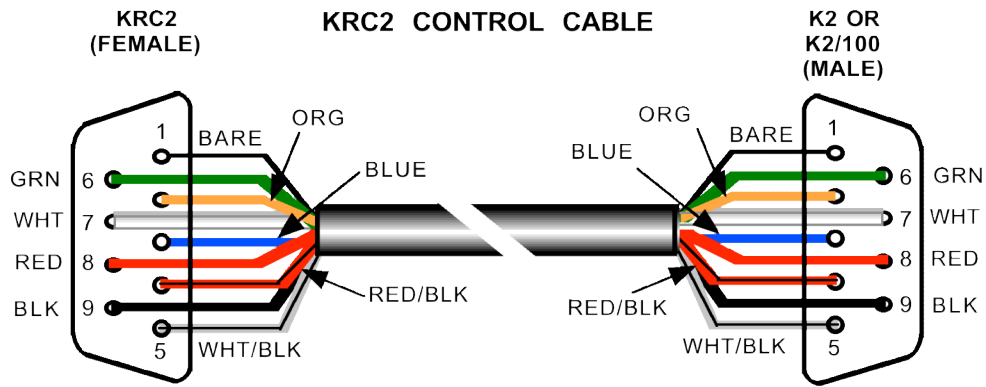

Figure 6
- Solder the wires to the indicated connector pins at the KRC2 end of the cable as shown in Figure 6. It may be helpful to melt some solder into each solder cup on the connector first.